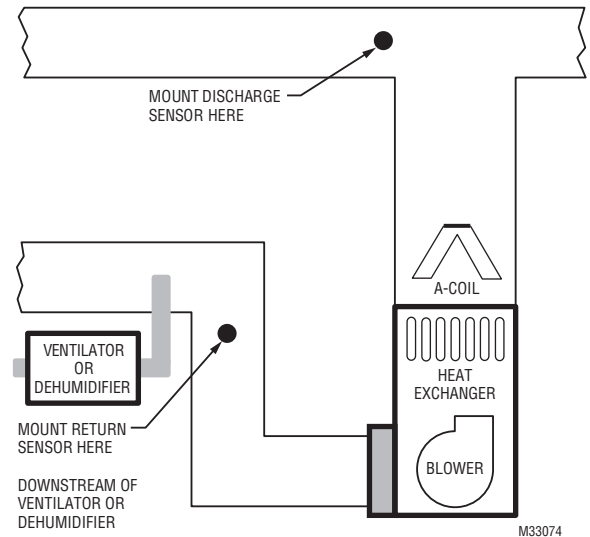

Fig. 62.
Install the Return Air Temperature Sensor on the return duct in a location where the air is mixed well. Mount the Return Air Temperature Sensor downstream of a Bypass Humidifier, Dehumidifier or Ventilator. See Fig. 62–66.
1. Mount the Discharge Air Temperature Sensor on the supply duct in a location where the air is mixed well. Mount the Discharge Air Temperature Sensor out of sight of the A-Coil/Heat Exchanger when possible. See Fig. 62.